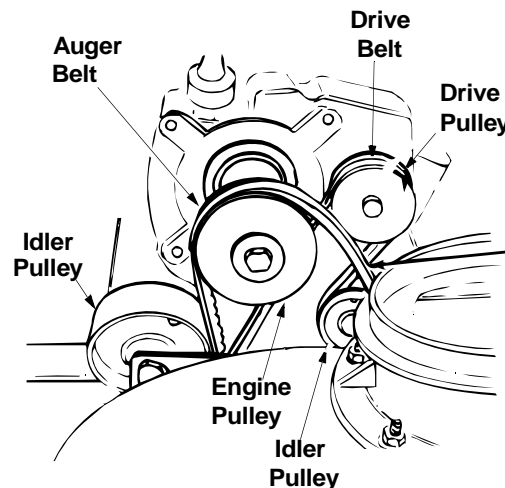

Figure 26
- Roll auger belt off the engine pulley. See Figure 26.
- Lift the rear auger belt from the auger pulley, and slip belt between the support bracket and the auger pulley. See Figure 26. Repeat this step to remove the front auger belt.
- Pull idler pulley up, and lift belt off engine pulley and friction wheel disc. See Figure 26.